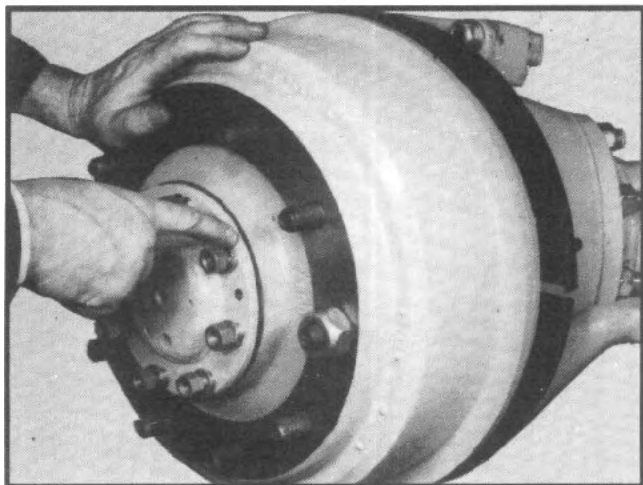

Fig. 40
5. Push axially on the outer drive yoke and check for positive clearance under the axle shaft flange. The clearance should be at least .015-inch. (See fig. 40, Page 19.)